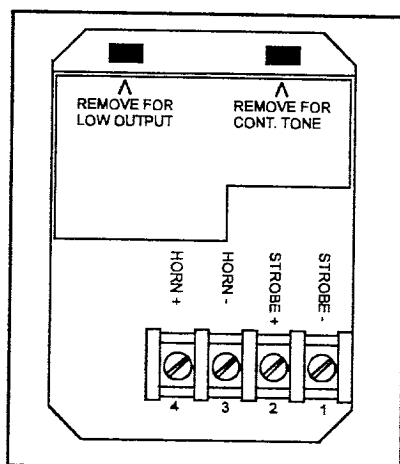

Figure 5. Terminal Block
1. The unit is shipped set at 102 dBA. To select an output of 98 dBA, remove the appropriate jumper from the circuit board on the rear of the unit (See Figure 5). Slide the jumper onto one pin on the back of the unit so it is readily available if it is desired to change the output level again.
2. The unit is shipped set to sound a temporal tone. To select a steady tone, disconnect the appropriate jumper from the circuit board on the rear of the unit (See Figure 5). Slide the jumper onto one pin on the back of the unit so it is readily available if it is desired to change the tone again.